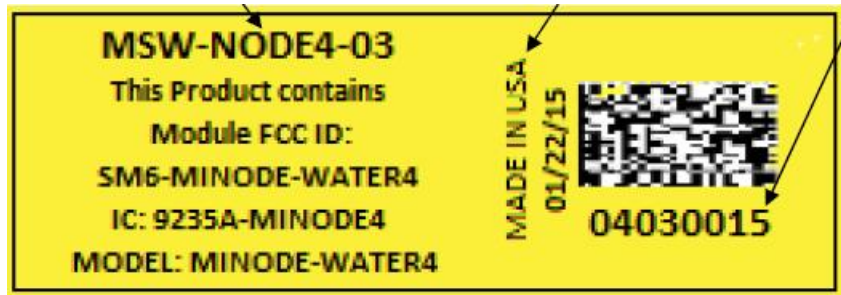

Figure 1. Product Identification Label
- FIGURE 1. PRODUCT IDENTIFICATION LABEL6